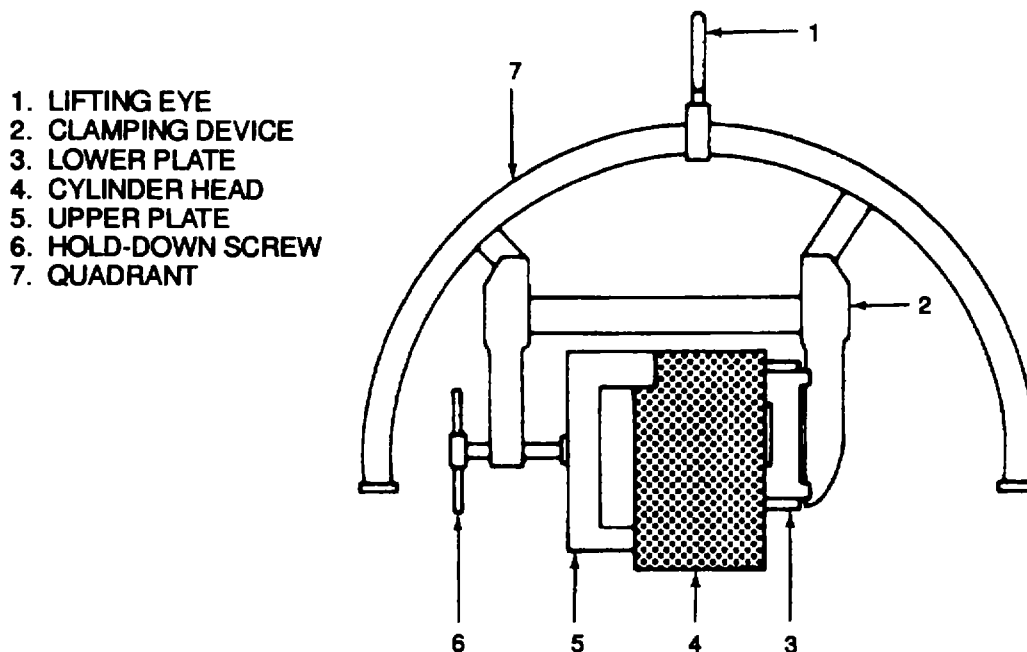

Figure 9-5. Cylinder Head Installed In ST-1012
- (1) Place the valve spring (3) on a surface plate and check the free length. The valve spring should be square, and have a free length of approximately 3.349 inches (85.06 mm). Discard valve springs that are obviously warped or collapsed.
- (2) Using valve spring tester 3375182, compress the valve spring to a length of 2.470 inches (62.74 mm), and note the load needed to compress the spring. Discard springs that are outside the limits of Table 1-4.
- (3) Inspect the valve spring seats (2) for cracks and worn or elongated lock holes. Discard the retainers if cracked, or if holes are worn or elongated.
- (4) Inspect the valve spring guides (4) for cracks. Discard if cracked.
- c. Cylinder Heads. Inspect the cylinder heads as follows (see Figure 9-1, Figure 9-5, Figure 9-6, and Figure 9-7):
- (1) Assemble the head in test fixture ST-1012 using adapter plates 3375070 (3 and 5, Figure 9-5), and perform an air pressure test as follows:
- (2) Assemble the head in test fixture ST-1012, as in step (1), above, (Figure 9-5), and perform a water pressure test as follows:
- (a) Position the head over a drain area and connect a water supply at 35 to 85 psi (241 to 586 kPa), and a temperature of 180° to 200°F (82° to 93° C). Close the water outlet, and inspect the same areas as in step (1) (c), above, for water leaks.
- (3) Using magnetic crack detector ST-1166 or equivalent, check for cracks in the area of the valve ports and injector port. Discard the head if cracked.
- (4) Visually inspect the head for damaged gasket surfaces and eroded water holes that would interfere with proper gasket sealing. Refinish damaged gasket surfaces and repair eroded water holes in accordance with paragraph 9-11.
- (5) Inspect dowel pins for damage and tightness of fit, and check threaded holes for damage or stripping. Repair stripped holes in accordance with paragraph 2-12.
- (6) Check the soundness of the expansion plugs by tapping them with a sharp punch. Replace expansion plugs that dent easily, or are penetrated easily, in accordance with paragraph 2-10.